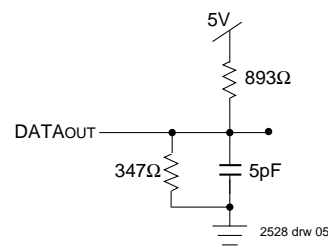

Figure 2. Output Test Load (for  $t_{HZ}$ ,  $t_{WZ}$ , and  $t_{OW}$ ) Including scope and jig.
1. Transition is measured  $\pm 200\text{mV}$  from Low or High-impedance voltage with Output Test Load (Figure 2).
1. Transition is measured ±200mV from Low or High-impedance voltage with Output Test Load (Figure 2).
4. Transition is measured  $\pm 200\text{mV}$  from the Low or High-impedance voltage with the Output Test Load (Figure 2).